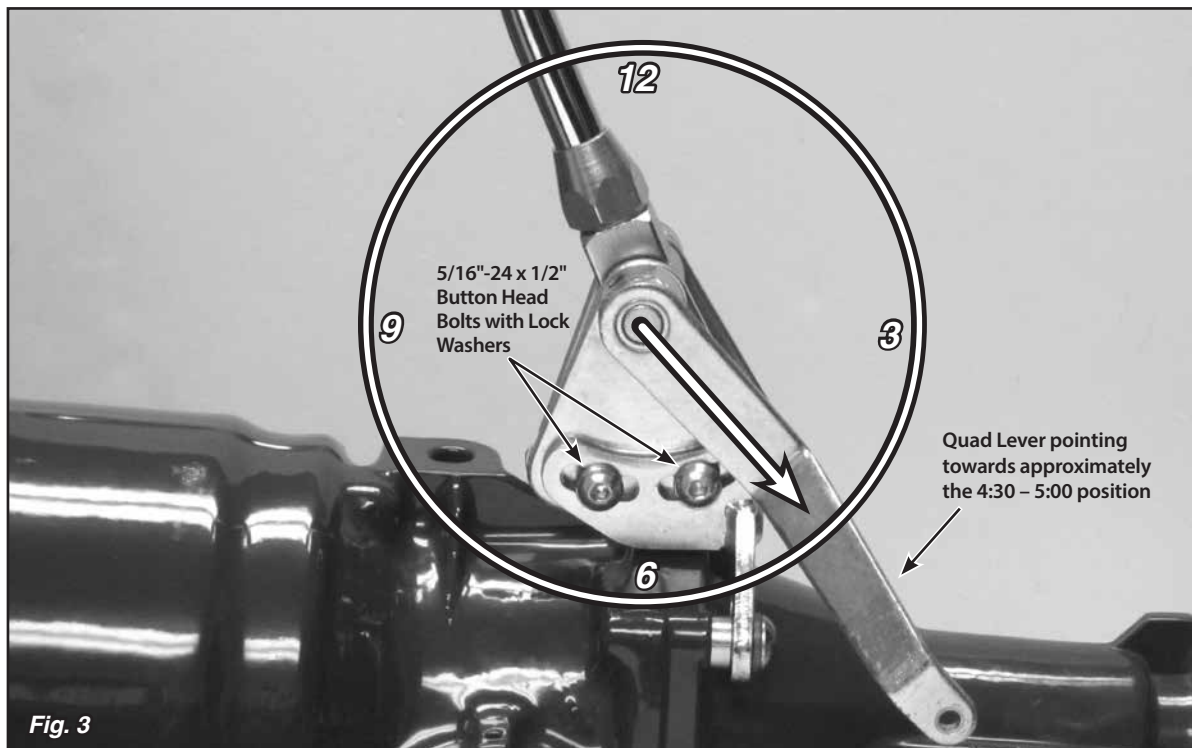

Fig. 3
Step 5: Insert the shifter assembly into the tailmount bracket so that the bolt holes line up with the curved, slotted holes in the welded banana brackets, and reinstall the 5/16"-24 x 1/2" button head bolts with lock washers. **Fig. 3**
Step 7: Make sure the two 5/16"-24 x 1/2" button head bolts in the left side of the shifter assembly on the welded banana bracket are tight. Move the Shifter through all the gear positions. Make sure that the shifter lever and knob do not come in contact with the dash or the seat. The shifter assembly can be tilted forward or backward if needed by loosening the 5/16"-24 x 1/2" button head bolts in the welded banana bracket on the left side. Be sure to re-tighten the bolts in the welded banana bracket after adjusting the angle of the shifter assembly. **Fig. 3**
Step 8: Put the Shifter into the Park position and check the position of the quad lever. It will need to be pointing to about the 4:30 – 5:00 position. If it is not, loosen the set screw in the top of the quad lever with a 1/8" Allen wrench and slide the quad lever off of the shaft. Reposition it on the shaft at approximately the 4:30 – 5:00 position, and retighten the set screw. **Fig. 3**